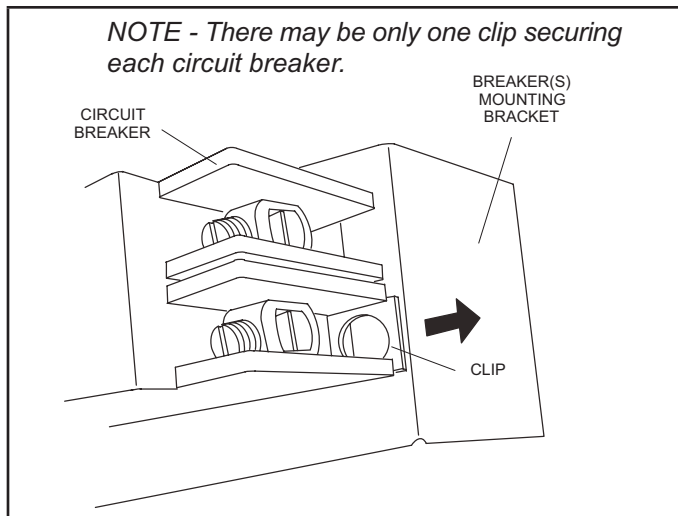

FIGURE 8. Circuit Breaker Clip
- 1 - Locate the one clip located on the right side (see arrow) of each breaker (see figure 8). The clip secures the circuit breaker to the mounting bracket. Pull the clip to release the breaker from the mounting bracket and rotate the breaker to the proper position.
- 5 - From the underside of the coil, install the downflow drip shield firmly in place as illustrated in figure 8.